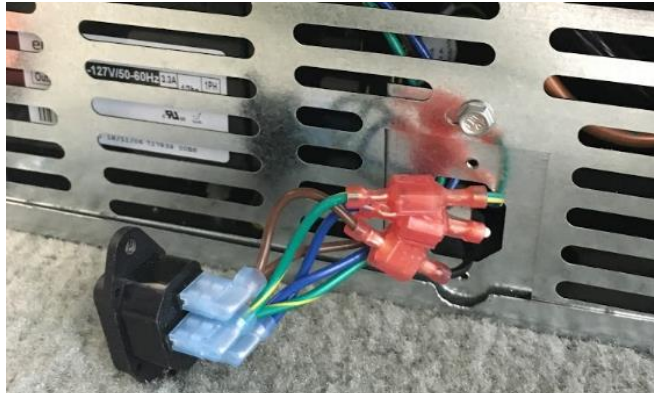

Figure 89: Main Power Plug.
- b. If Touch Screen is ON and light/fan are both off, remove two screws from the fridge power plug and pull it out to check the connections to the plug. The Bottom Rear Panel might need to be removed to access the Power Supply Harness. Refer to **Appendix C: JoeTap NITCOM Wiring Diagram** for full wiring diagram. See **Figure 89**.